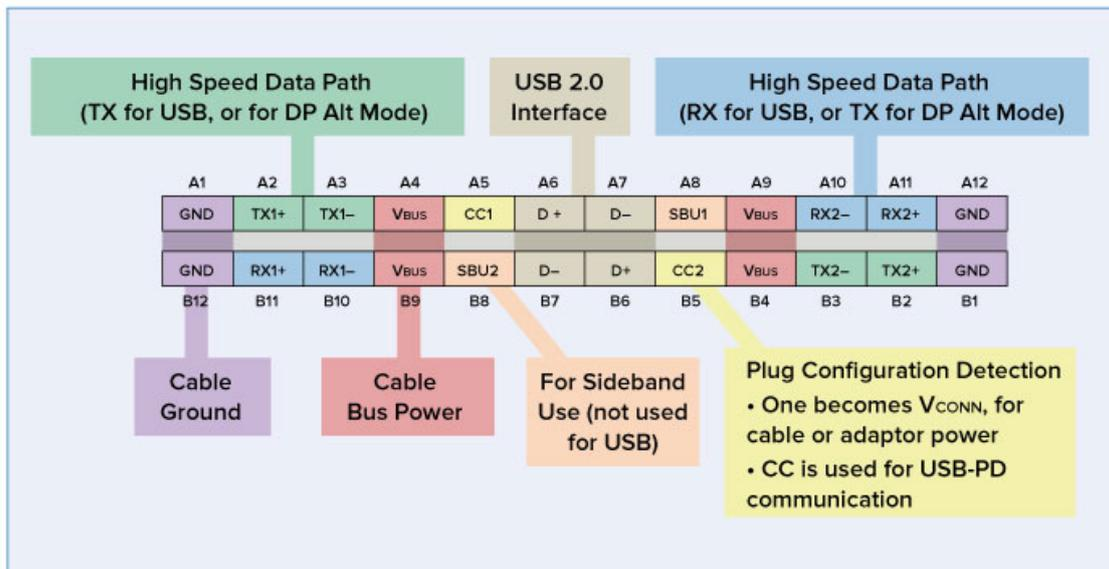

Figure 2. USB-C pin assignments.
The USB-C connector has 24 pins, on a 0.5mm pitch, and an 8.4mm-by-2.6mm form factor. Pin assignments are shown in figure 2. This diagram illustrates how the new standard is backwards compatible with legacy USB 2.0 equipment, while catering for USB 3.1 and PD specifications. The Configuration Channel (CC) pins shown are used for determining cable orientation and providing the PD negotiations between power-source and consumer devices.